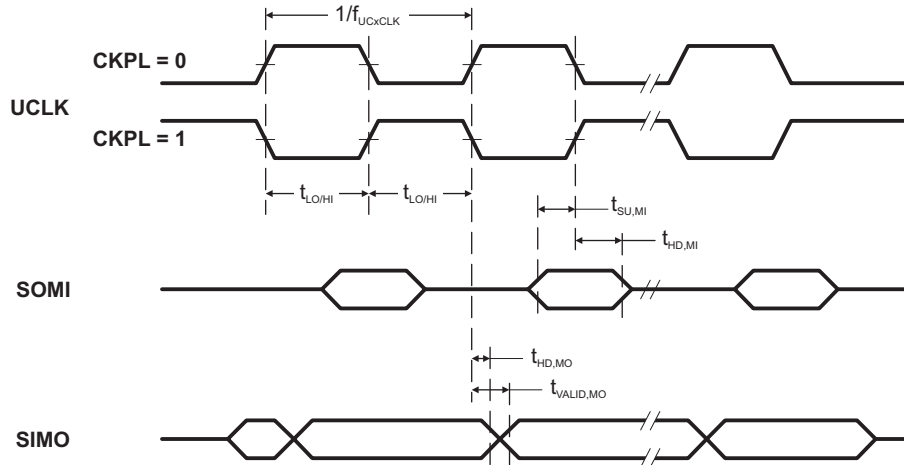
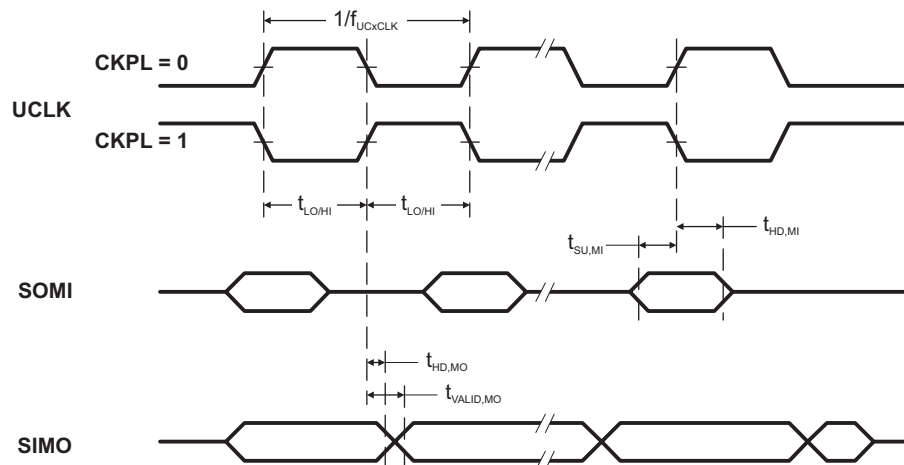

Figure 5-11. SPI Master Mode, CKPH = 0
Figure 5-12. SPI Master Mode, CKPH = 1
(see Note ⁽¹⁾, Figure 5-11 and Figure 5-12)
- (1) f_{UCxCLK} = 1/2t_{LO/Hi} with t_{LO/Hi} ≥ max(t_{VALID,MO(USCI)} + t_{SU,SI(Slave)}, t_{SU,MI(USCI)} + t_{VALID,SO(Slave)}).
- (2) Specifies the time to drive the next valid data to the SIMO output after the output changing UCLK clock edge. See the timing diagrams in Figure 5-11 and Figure 5-12.
- (3) Specifies how long data on the SIMO output is valid after the output changing UCLK clock edge. Negative values indicate that the data on the SIMO output can become invalid before the output changing clock edge observed on UCLK. See the timing diagrams in Figure 5-11 and Figure 5-12.
- (2) Specifies the time to drive the next valid data to the SOMI output after the output changing UCLK clock edge. See the timing diagrams in Figure 5-11 and Figure 5-12.
- (3) Specifies how long data on the SOMI output is valid after the output changing UCLK clock edge. See the timing diagrams in Figure 5-11 and Figure 5-12.